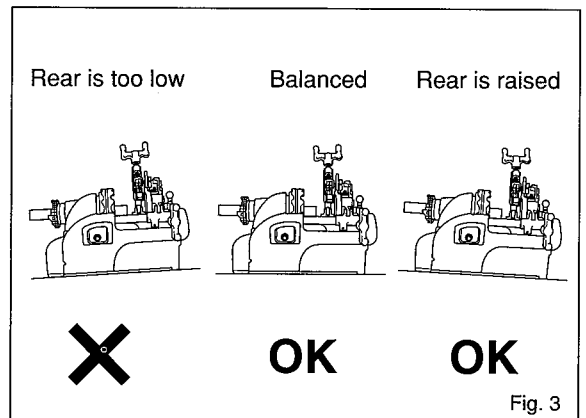

Fig. 3
2. Positioning the Machine (Fig.3)